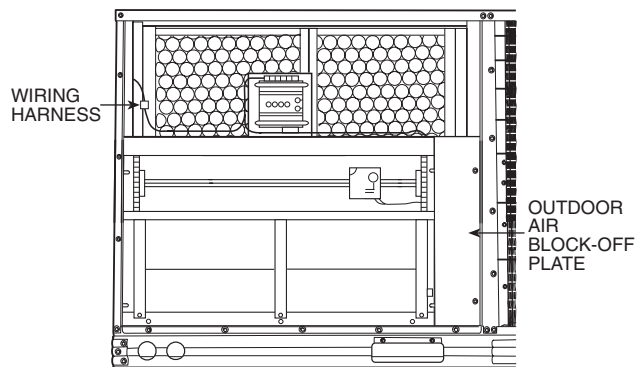

Fig. 29 — EconoMiSer Installed
7. Install the outdoor-air block-off plate, then secure the EconoMi\$er with the screws provided. See Fig. 29.